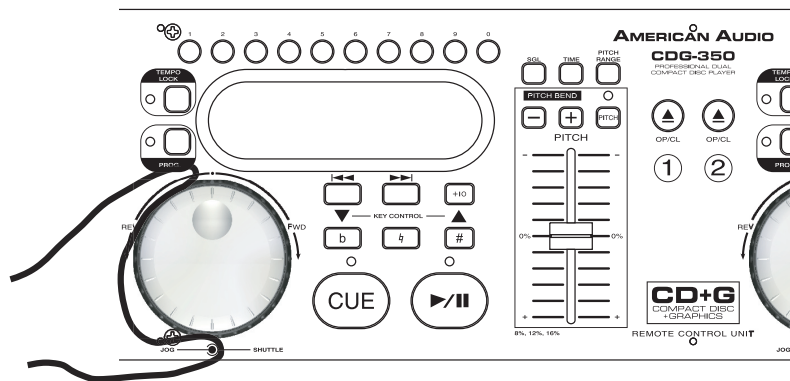

Figure 10
This feature allows you to scroll through a track frame by frame, allowing you to find and set a starting cue or loop point. To use the scroll function you must first be in Pause Mode or Cue Mode. Once you are in Pause or Cue mode, turn the *SHUTTLE WHEEL (17)* to scroll through the track (Figure 10). Turning the wheel in a clockwise direction will advance the frame search and turning the wheel in a counter-clockwise direction rewinds the frame search. When you use the *SHUTTLE WHEEL (17)* the monitor (headphone level) function allows you to here what you are scrolling through. Once you reach your desired starting point you can set a cue (starting) point by pressing the *PLAY/PAUSE BUTTON (14)*. Pressing the *CUE BUTTON (15)* will now return you to the point you just set.